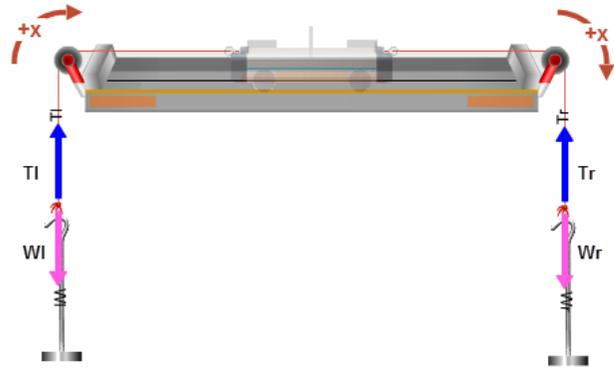

Figure 11 – Apparent Weight
- Set up the system shown in Figure 11. You'll want a string and empty hanger on each side.